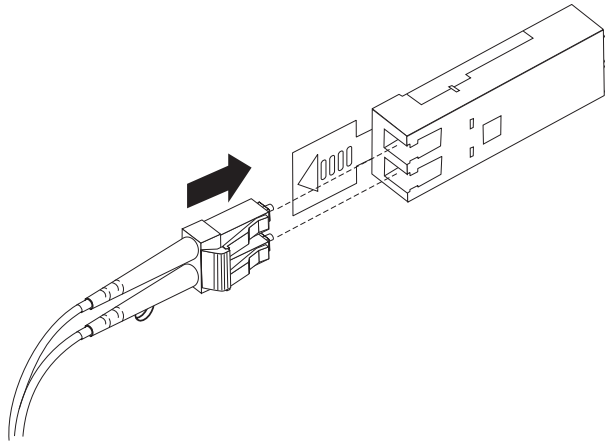

Figure 22. Inserting an LC-LC fibre-channel cable into an SFP module
4. Carefully insert this end of the LC-LC cable into an SFP module that is installed in the EXP520. The cable connector is keyed to ensure it is inserted into the SFP module correctly. Holding the connector, push in the cable until it clicks into place, as shown in Figure 22 on page 37.